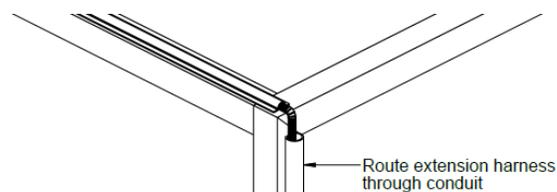

FIGURE 5
8. Route the harness down the trailer to the DCS unit. If available, use an existing conduit or channel. (Figure 5)